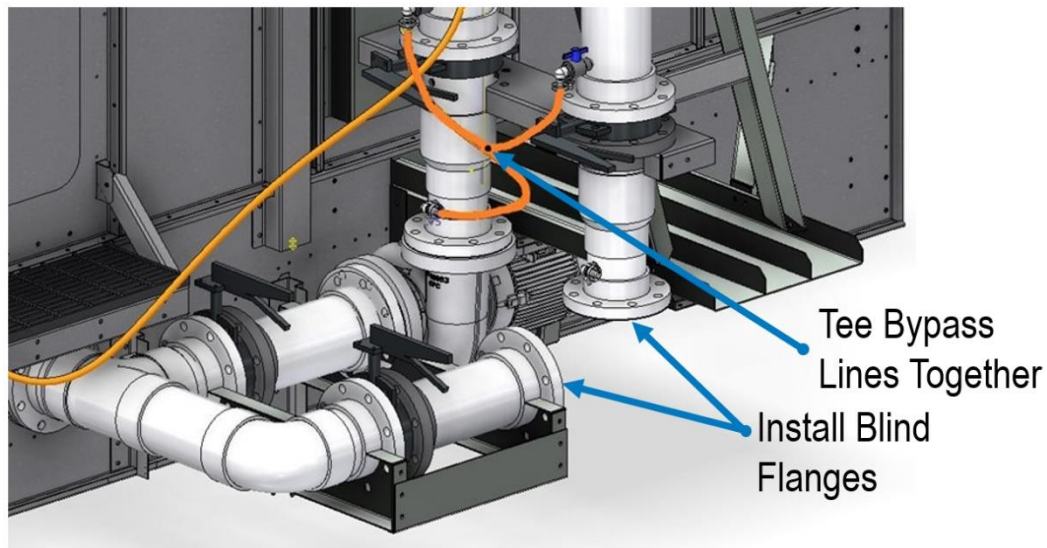

Figure 17. Long Term Pump Removal
6. If the pump will be removed for an extended period install blind flanges with gaskets on the suction and discharge side of the removed pump. Pump flange connection uses 3/4"x3-3/4" hardware. Torque flange hardware to 40 ft-lbs. Do not overtighten. Tee the bypass line of the removed pump into the adjacent bypass line. Open the bypass valve for the removed pump. See **Figure 17**.